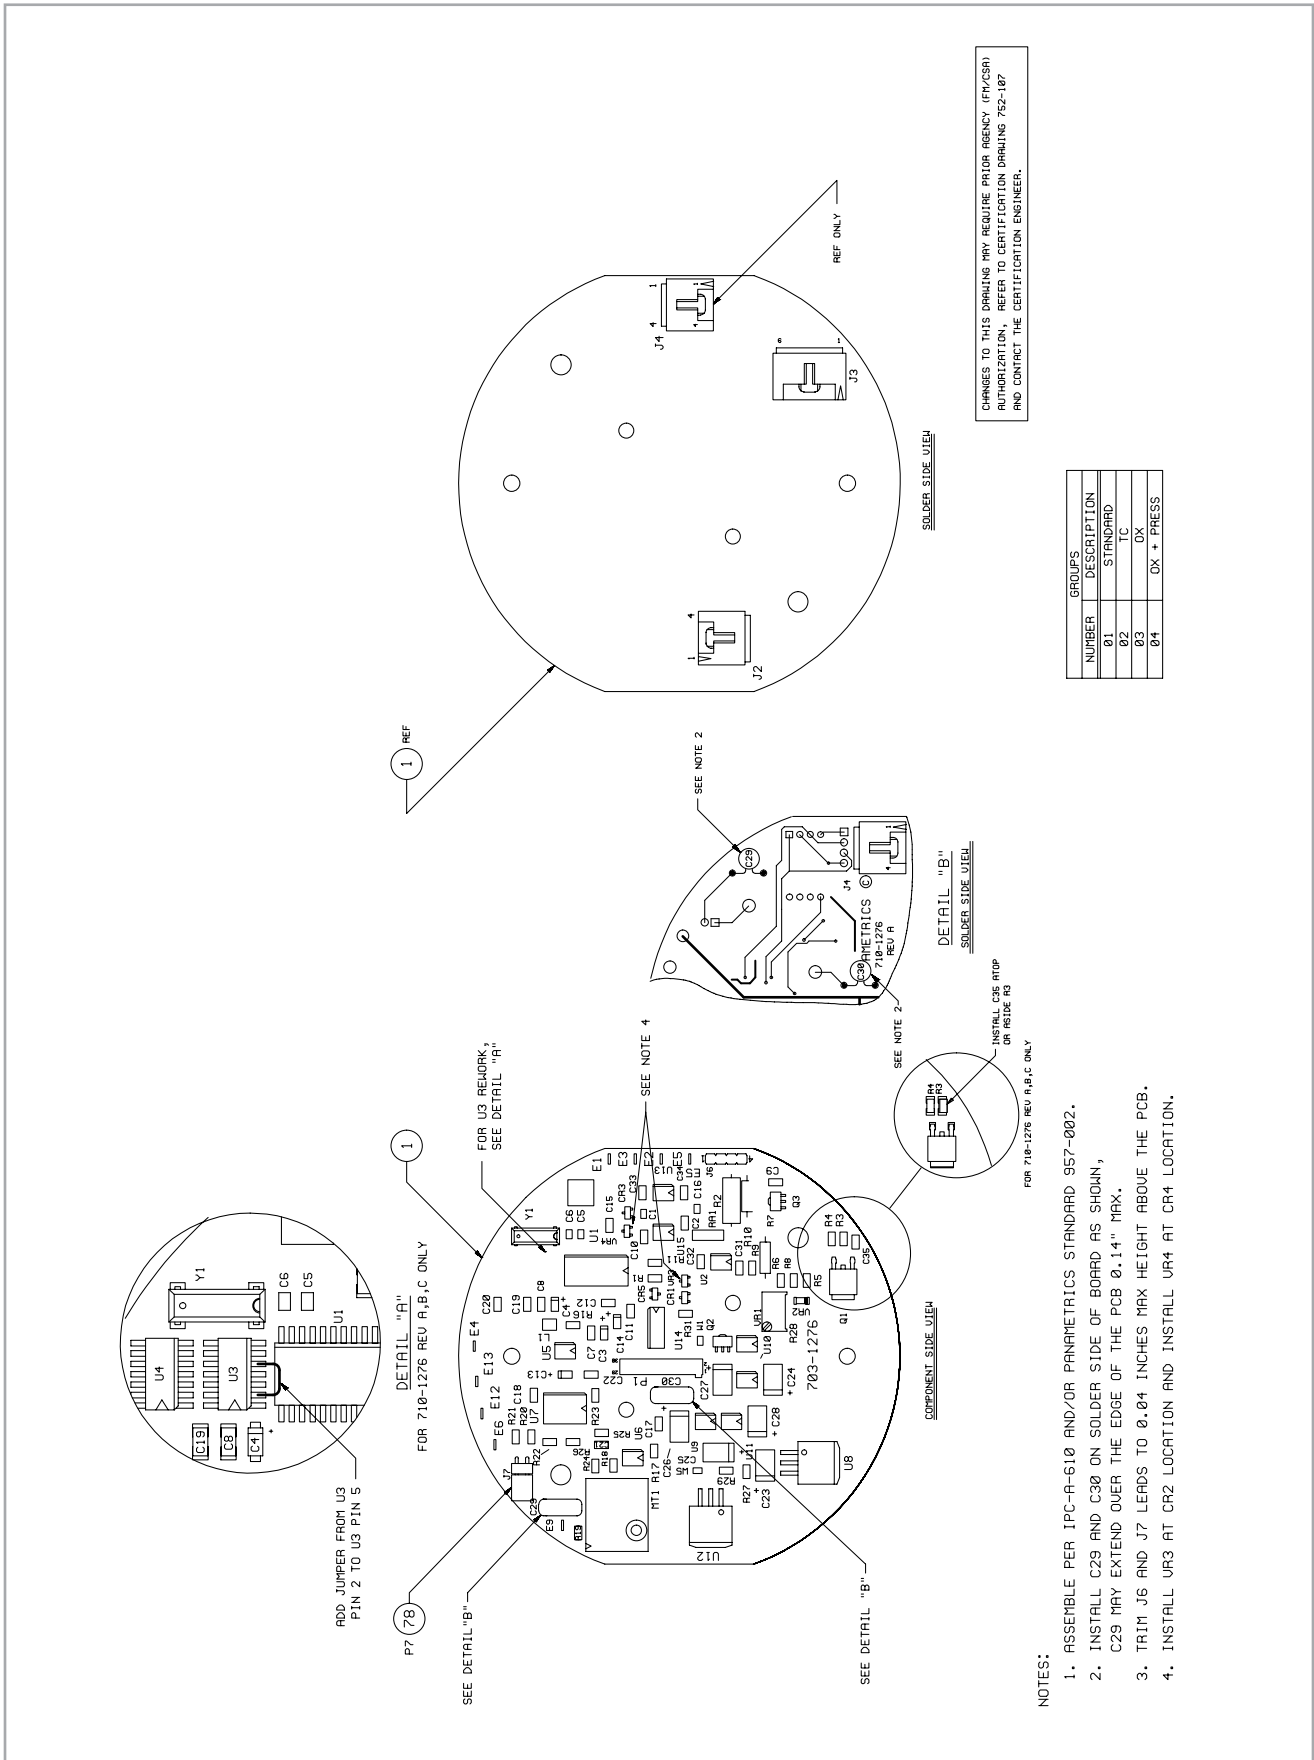

Figure 69: Analog PCB assembly (ref. dwg #703-1276, rev. H,)
- Figure 69, "Analog PCB Assembly (ref. dwg #703-1276, rev. H,)" on page 54